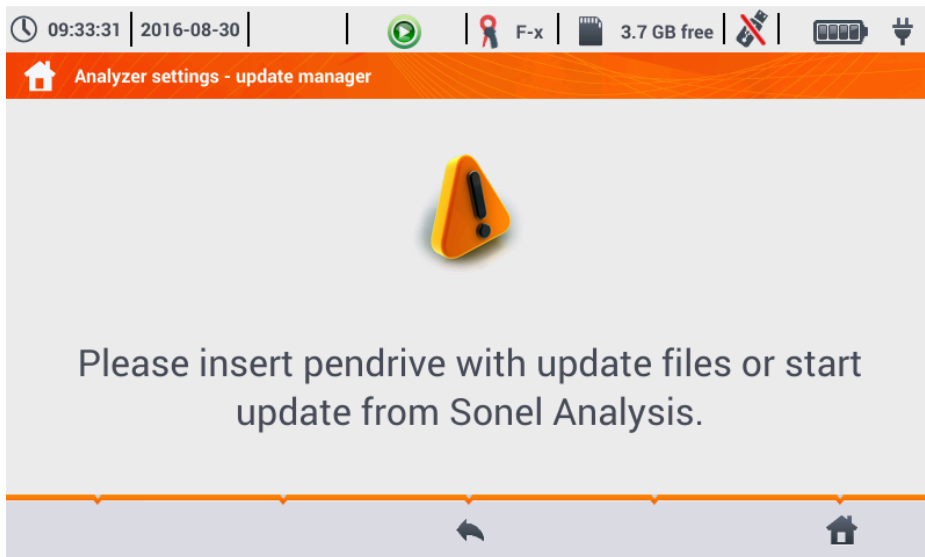

Fig. 19. Analyzer settings - Update manager.
- **UPGRADES** – will be displayed as window shown in Fig. 19. In this mode, a memory stick can be connected to the analyzer with a file containing a new version of firmware. If such a file is detected and you confirm your intention to update firmware, the meter performs automatic upgrade process. The user should follow the on-screen prompts. The second option of updating is the use of *Sonel Analysis* software.